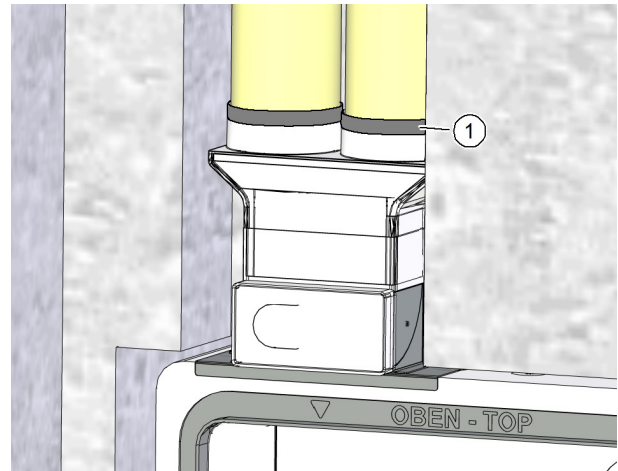

Fig. 18: Fixing a flexible pipe connection with sealing tape
- ▶ Insert the flexible pipes into the openings in the flexible pipe connection on the wall box and seal the join with a layer of sealing tape 30 mm wide (item 1 in Fig. 18) or insert sealing rings. These are available as accessories M-WRG-FR-DR75 or M-WRG-FR-DR63 for the corresponding nominal diameter.